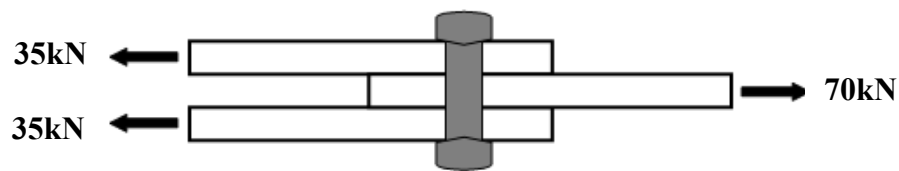

Figure 3(a) / Rajah 3(a)
- CLO2 (a) Two rivets are used to connect three steel plates as shown in Figure 3(a). The rivets used can withstand a force of 70kN and the shear stress in the rivet is 160MN/m^2 . Determine the diameter of the rivet.